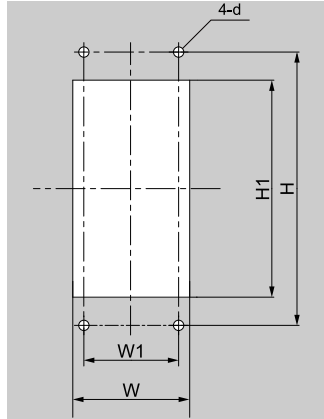

Figure 2.13 Panel Cut-Out Dimensions to Attach Inside Control Panel
1. Use the panel cut-out dimensions in Figure 2.13 and Table 2.4 to cut an opening in the control panel for the keypad.